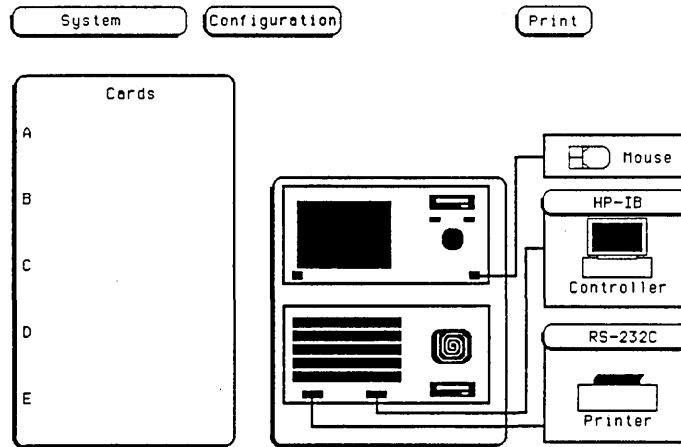

Figure 2-8. System Configuration with optional Mouse
1. Cycle power or touch the upper left corner field of the touch screen. Touch the **System** field to obtain the System Configuration menu (see figure 2-8).